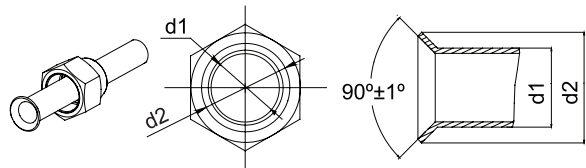

Fig.13
- (1). Cut the connection pipe with the pipe cutter and remove the burrs.
- (2). Hold the pipe downward to prevent cuttings from entering the pipe.
- (3). Remove the flare nuts at the stop valve of the outdoor unit and inside the accessory bag of the indoor unit, then insert them to the connection pipe, after that, flare the connection pipe with a flaring tool.
- (4). Check if the flare part is spread evenly and there are no cracks (see Fig.13).